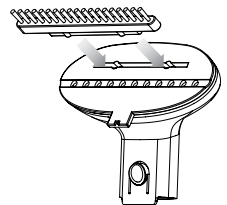

**FIGURE 7**
1. Align Fabric Nozzle with Steam Nozzle as shown (FIGURE 7).